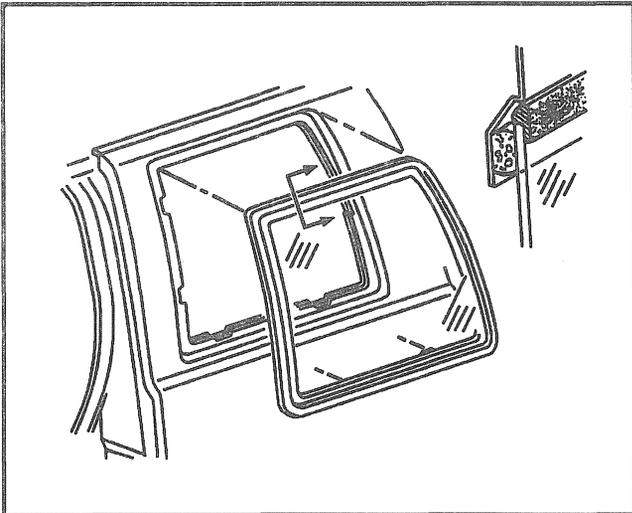

Figure 12—Primer and Adhesive Application Points
⇔ Install or Connect (Figures 12 through 14)
2. Clear primer to the window covering an area of 18 mm (3/4 inch) from the edge of the glass (Figures 12 and 13).